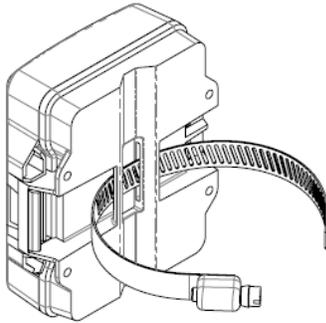

Figure 2a
1. Pole mounting – orient cable gland towards the ground. Slide hose clamp or tie wrap through two slots on back of unit as shown in Figure 2a. Align channel on rear side of unit with pole and secure with hose clamp by tightening the worm gear screw. Do not over-tighten to prevent damage to the enclosure.